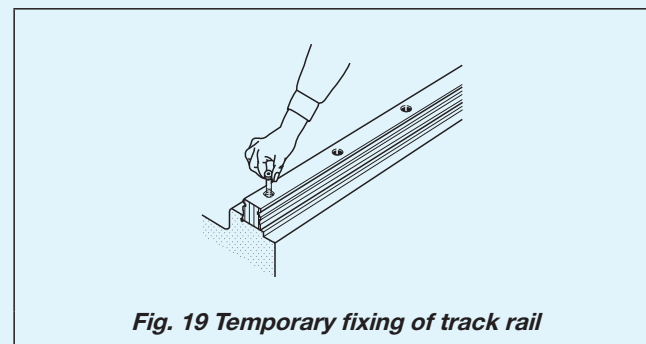

Fig. 19 Temporary fixing of track rail
② Temporary fixing of Linear Way I and II track rails
- Align and temporarily fix them with reference mounting surface of each Linear Way track rail. (See Fig. 19)